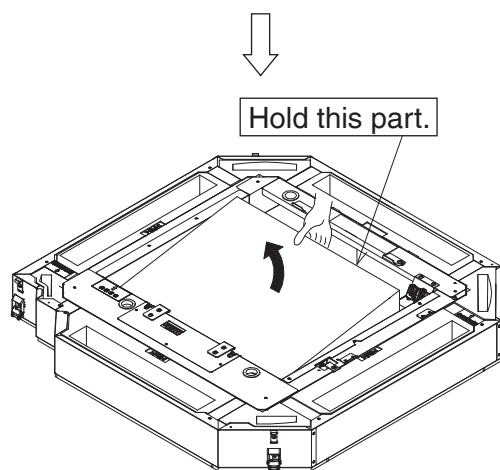

Figure 8
- (1) Remove the tapes securing the power supply and signal wires.
- (2) Remove the tapes securing the hooks (filter) (2 locations).
- (3) Remove the tape securing pleated filter (1).
- (4) Hold pleated filter (1) at the part indicated in **Figure 8** and pull it out.